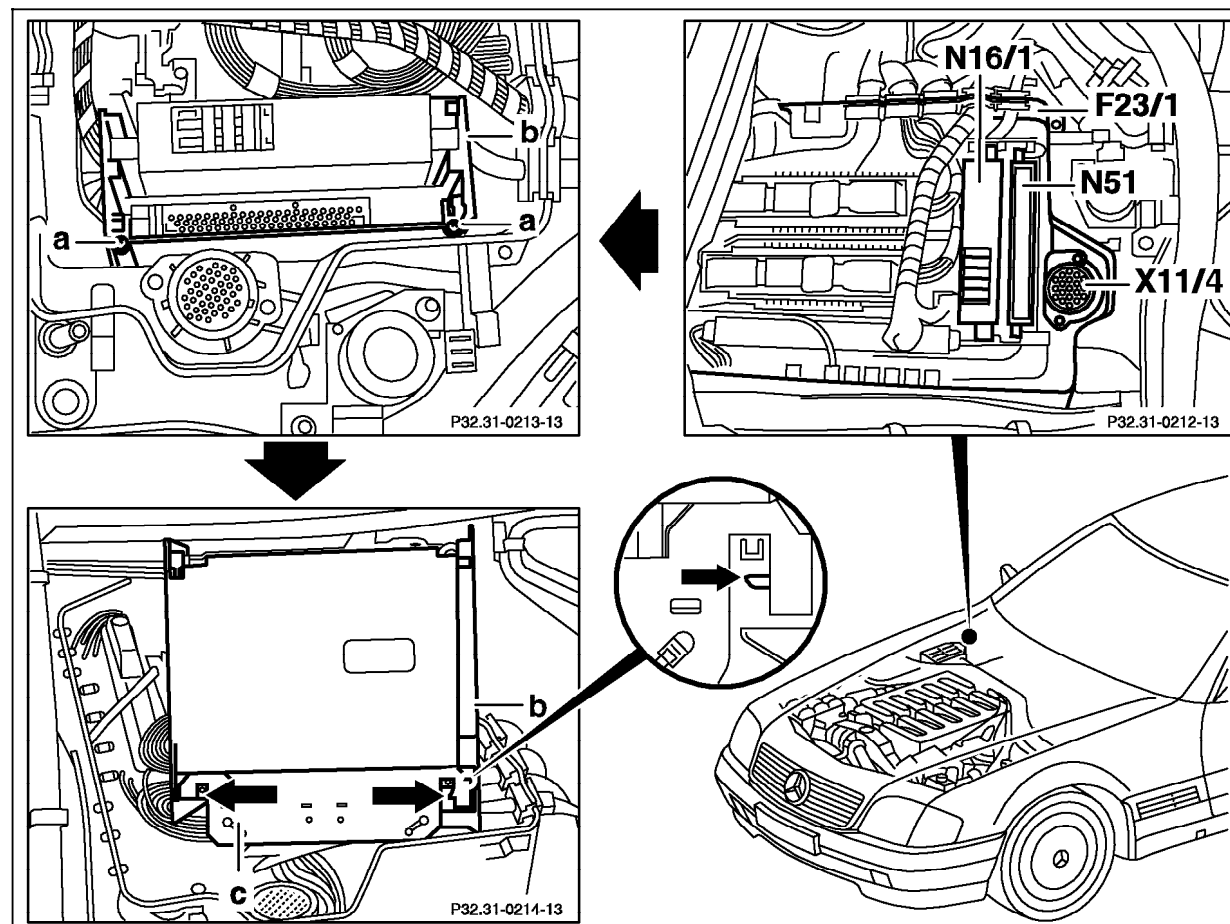

Figure 1
- 2. Remove ADS control module (N51) (Figure 1).